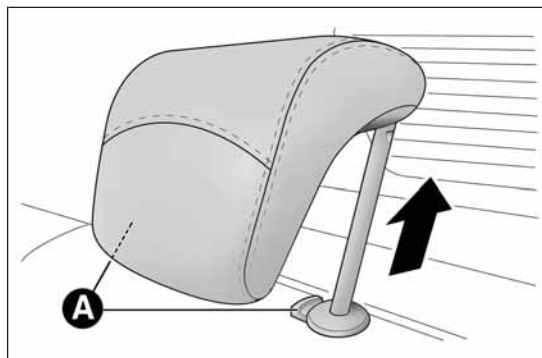

fig. 66
- ❑ raise the head restraints to the maximum height, press both the buttons A fig. 66 to the side of the two supports, then remove the head restraints by sliding them upwards;